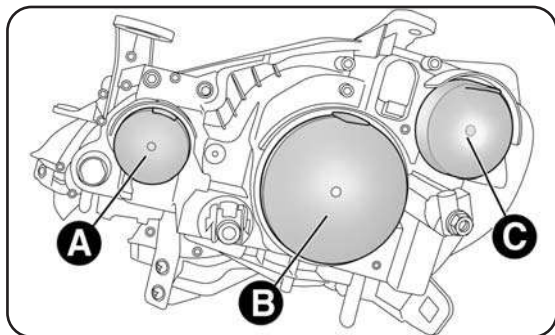

fig. 15
FRONT LIGHT CLUSTERS fig. 15
- remove the protective cover B - fig. 15;
- refit the protective cover B - fig. 15.
- remove the protective cover A - fig. 15;
- refit the protective cover A - fig. 15.
- remove the protective cover C - fig. 15;